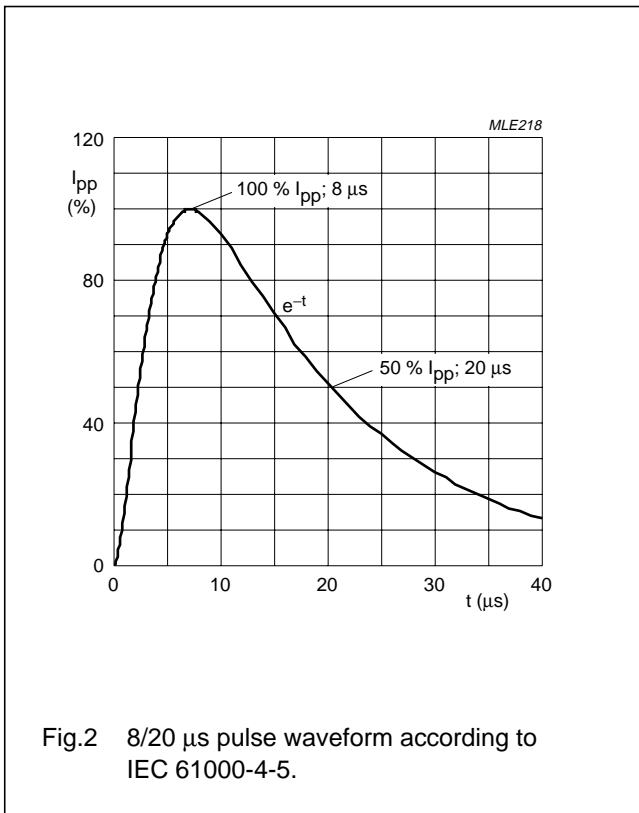

Fig.2 8/20  $\mu$ s pulse waveform according to IEC 61000-4-5.
1. Non-repetitive current pulse 8/20 μs exponentially decaying waveform; see Fig.2.
1. Non-repetitive current pulse 8/20  $\mu\text{s}$  exponentially decaying waveform; see Fig.2.